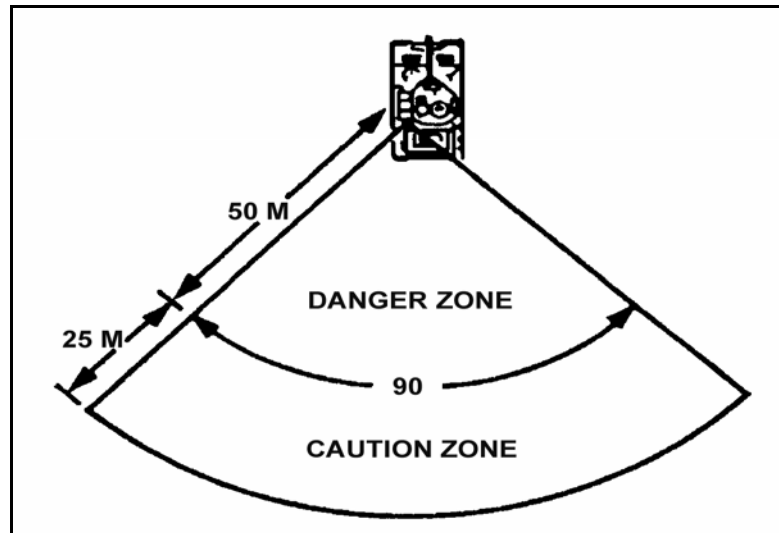

Figure 2-5. TOW backblast area.
(1) *Backblast.* The TOW weapon system has a backblast area that extends 75 meters to the rear of the vehicle in a 90-degree cone (Figure 2-5). This area comprises both a 50-meter danger zone and a 25-meter caution zone. The Bradley moves so that no personnel, unarmored vehicles, or obstructions (such as walls, embankments, or large trees) remain in the backblast area for its missile.